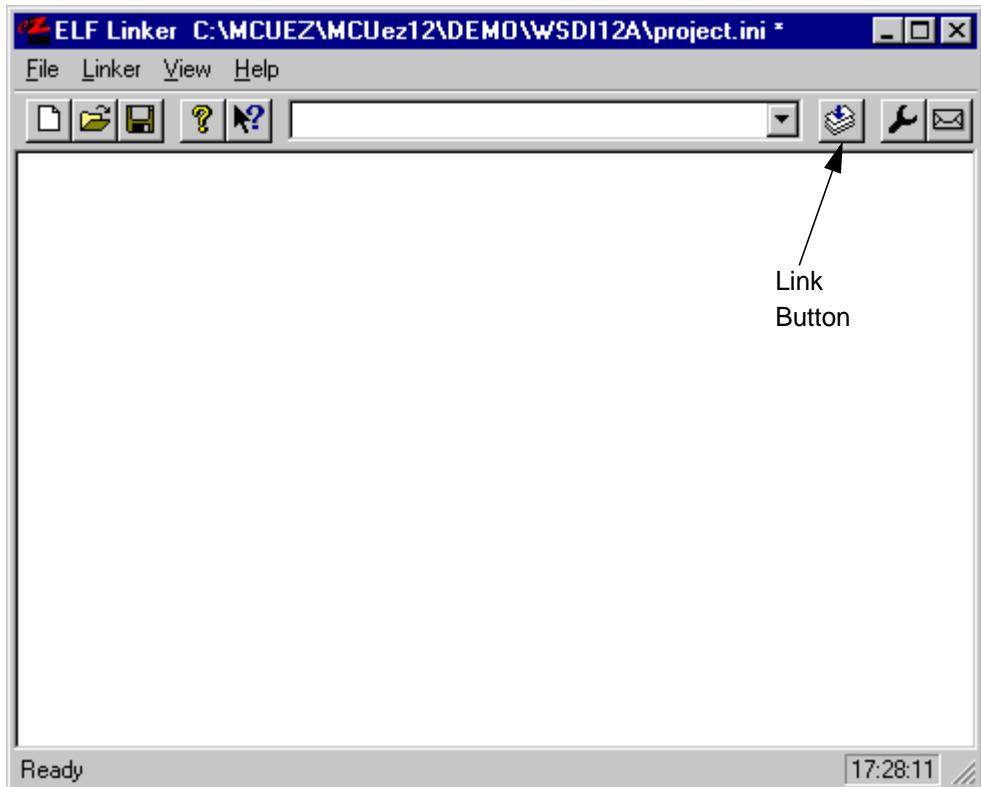

Figure 1-9. Linker Window
4. Click the **eZLink** button in the **MCUEz Shell**. The linker is started as shown in Figure 1-9.